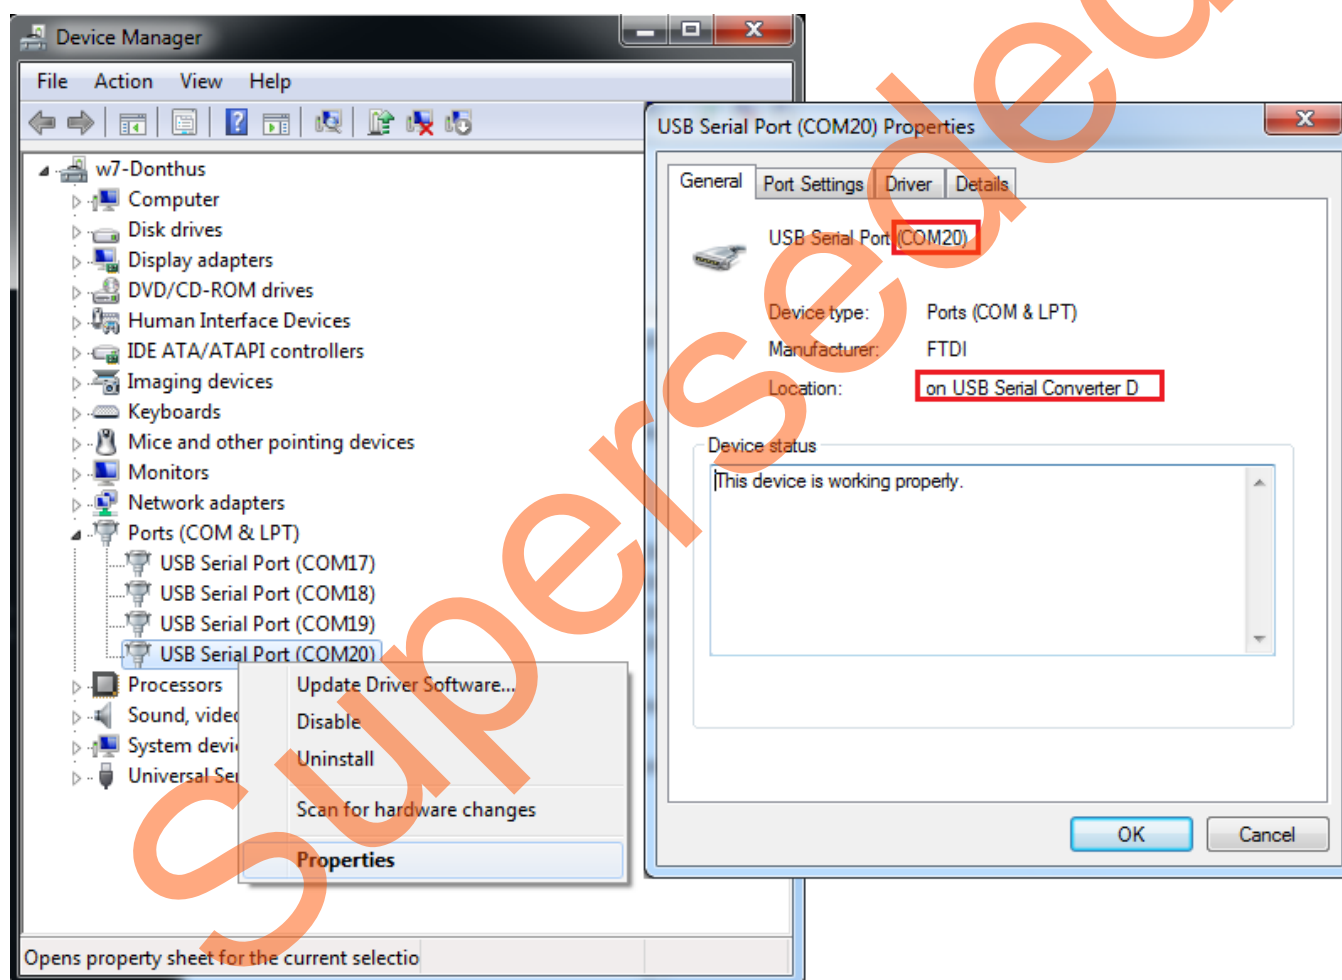

Figure 4. USB to UART Bridge Drivers
2. Connect one end of the USB mini-B cable to the **J18** connector provided in the SmartFusion2 Security Evaluation Kit board. Connect the other end of the USB cable to the host PC. Ensure that the USB to UART Bridge drivers are automatically detected (can be verified in the Device Manager), as shown in Figure 4.
Note: Copy the COM port number for serial port configuration. Ensure that the COM port **Location** is specified as **on USB Serial Converter D** as shown in Figure 4.